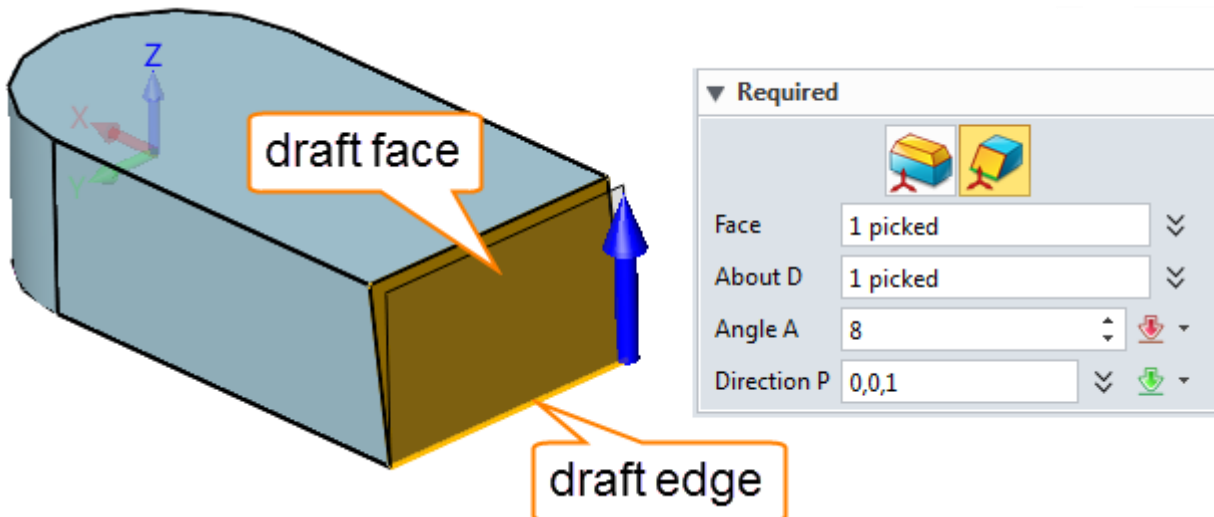

Figure48 Face Draft
STEP 02 Select the draft edge on the draft face. See Figure48.